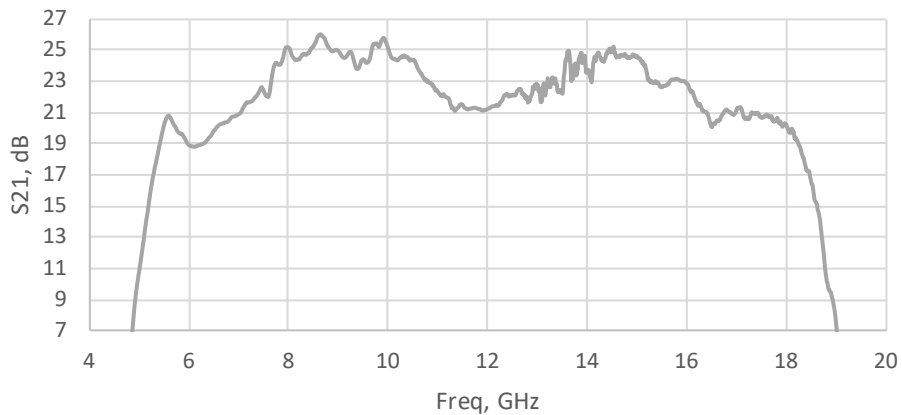

Figure 4-3. Typical Response: Input A4 – Front Panel RF Output
8. Remove the coaxial cable from the output of the A1 Preamplifier to the input of the A4 20-watt module. The typical response from the input of the A4 20-watt module to the RF output connector on the unit’s front panel is shown in Figure 4-3.